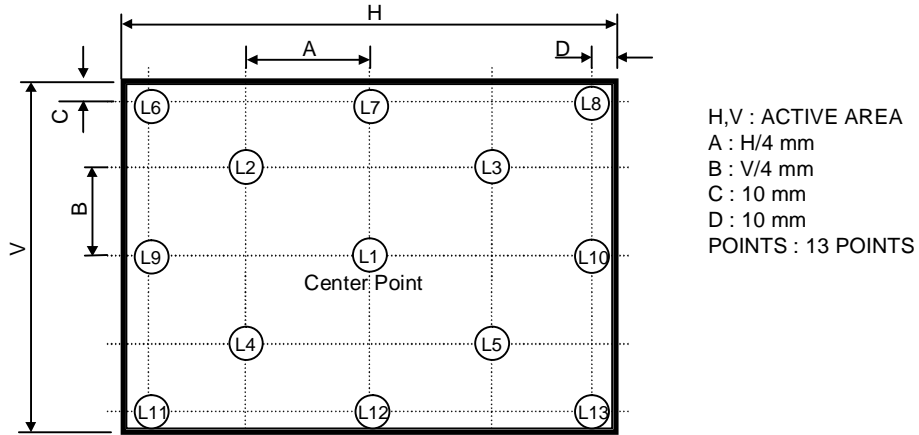

FIG. 3 Response Time
4. Response time is the time required for the display to transition from white to black (rise time, TrR) and from black to white(Decay Time, TrD). For additional information see FIG 3.